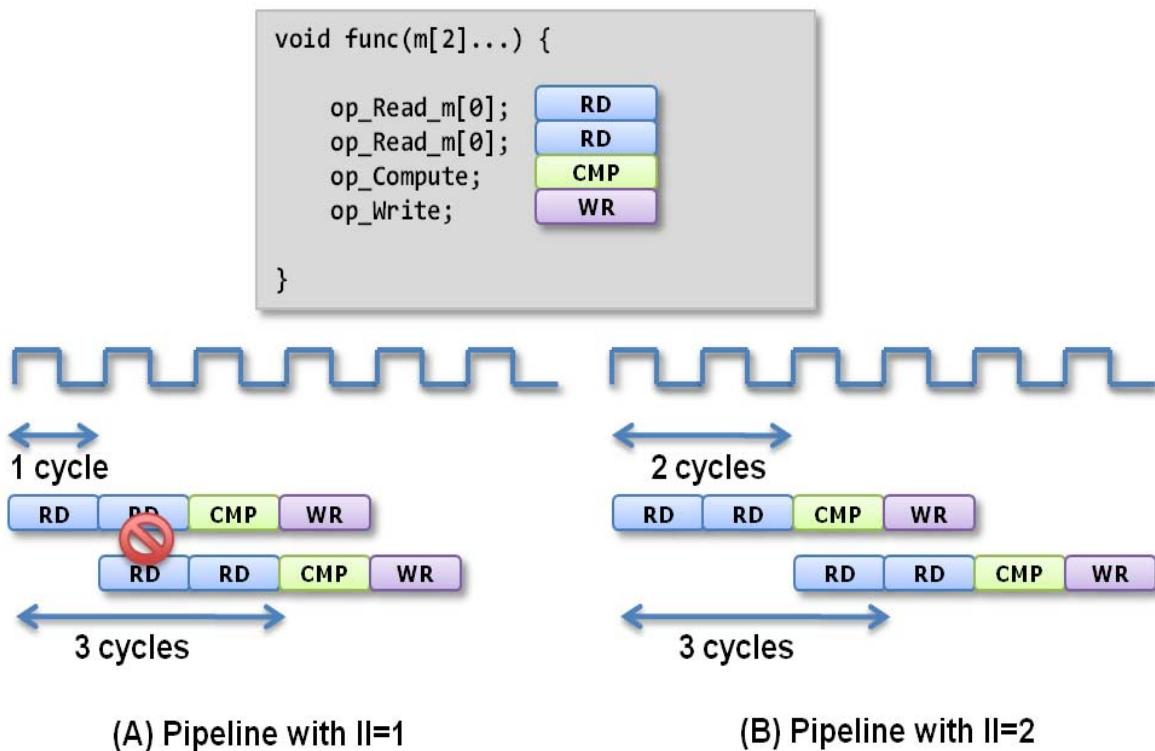

Figure 2-61: Pipeline Resource Contention
Function pipelining is only possible so long as there is no resource contention or data dependency which prevents pipelining. For example, in Figure 2-61 below, assume the input array "m[2]" is implemented with a single-port RAM. The function cannot be pipelined, as shown in Figure 2-61\(A\) because the two reads operations on input "m[2]" ("op\_Read\_m[0]" and "op\_Read\_m[1]") cannot be performed in the same clock cycle.
In Figure 2-61(A) the initiation interval is 1 because a new operation is performed every clock cycle. In Figure 2-61(B) an initiation interval of 2 is used - there is no longer any resource contention on the input port - and the function can be successfully pipelined.
Review sections "Array Optimizations" and "Controlling Hardware Resources" for more details on analyzing resource contention if pipelining fails to achieve the desired initiation interval. The resource contention problem in Figure 2-61 could also be solved by using a dual-port RAM for array "m[2]", allowing both reads to be performed in the same clock cycle.